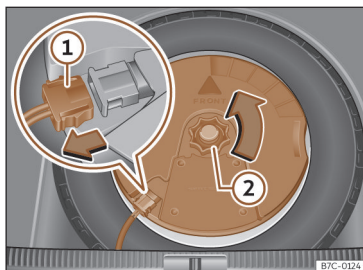

Fig. 240 In the luggage compartment: remove the subwoofer.
- Disconnect the subwoofer's speaker cable >>> **Fig. 240 ①**.
- Turn the securing wheel anti-clockwise >>> **Fig. 240 ②**.